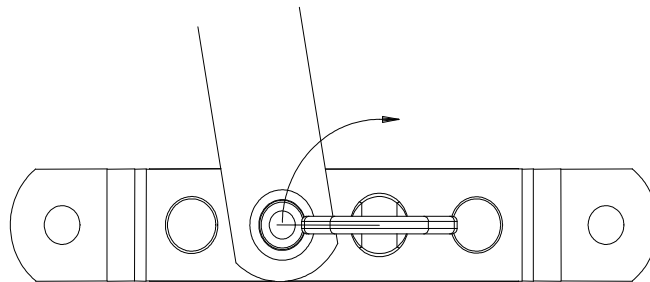

Fig. 7
- 2.1.25 In order to release the Detachable Restrictor Pivot Arm from the Frame Bracket the user must insert the Release Key into the Key Way of the Frame Bracket and rotate it in a clockwise direction through 90°. See Fig. 7.